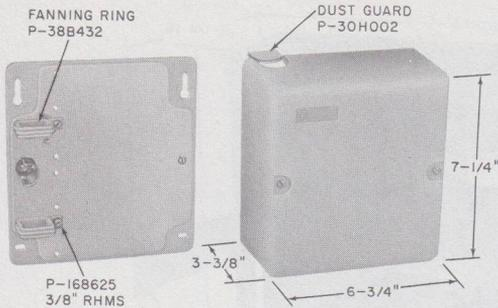

Fig. 1—105-Type Apparatus Box
- Current 105-type apparatus box (Fig. 1)
2.01 The 105-type apparatus box (Fig. 1) is a metal base with a cover designed to mount four single- or two double-space angle-bracket type key telephone units (KTUs). Two fanning rings are furnished with each box.